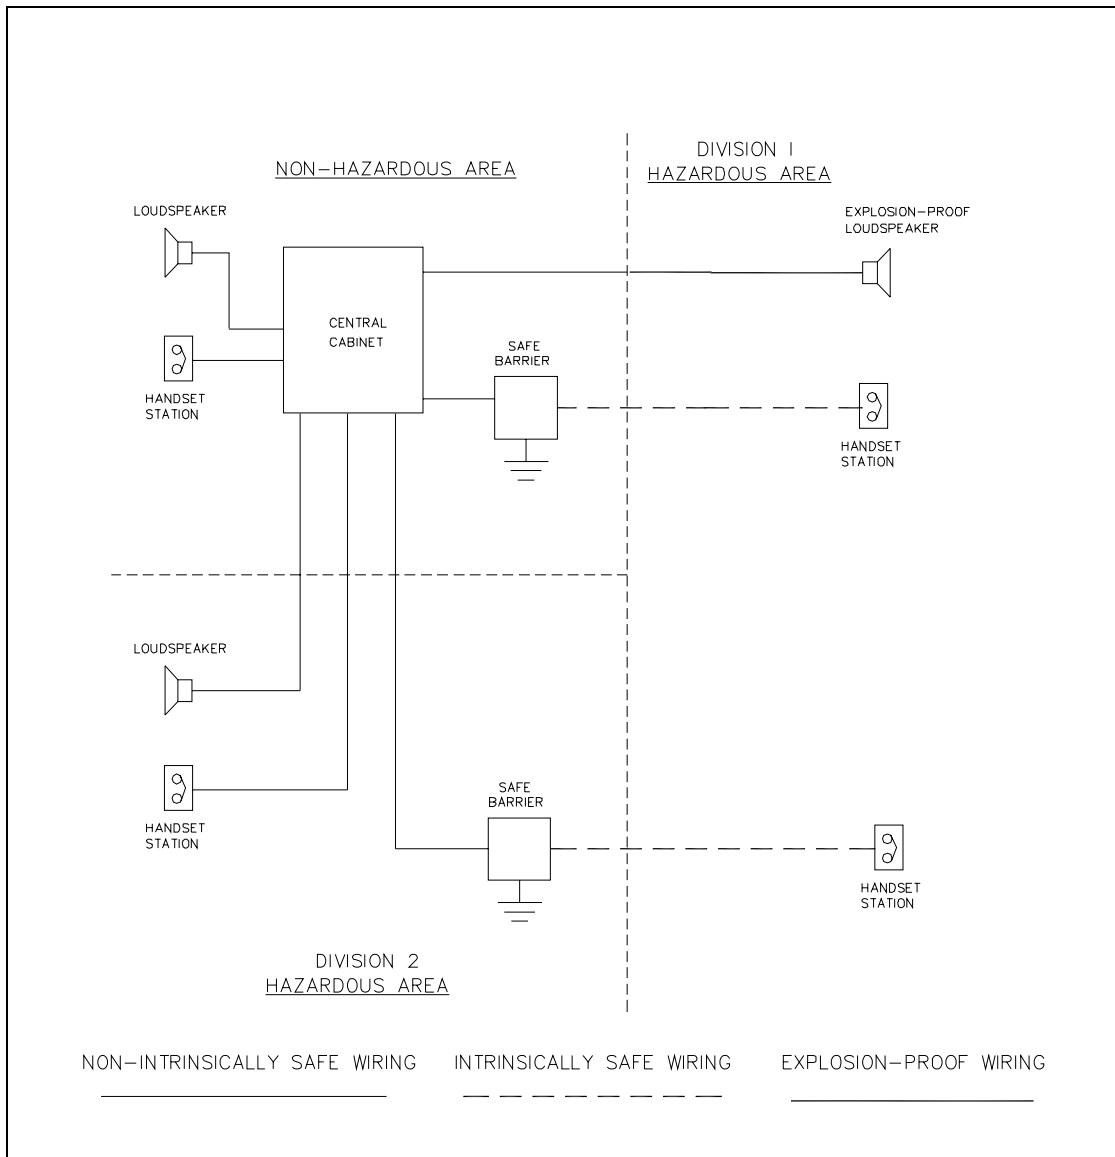

Figure 1. Typical Centra-Page System Diagram
All of the handset stations and speakers in a Centra-Page system are homerun (individually) wired back to the card rack(s). Terminations for each station and associated speaker are found in the rear of the card rack. For wiring information, refer to Figure 1, which illustrates a typical Centra-Page system, to the Model 10468-002 Centra-Page Central Cabinet manual, Pub. 42004-222, and the individual component manuals.
A typical Centra-Page system with components in both hazardous and non-hazardous areas is shown in Figure 1.
8. Wiring from the terminal blocks (TB1 through TB10) on the rear of the card rack to the associated handset station and speaker can be accomplished in several ways. See Figure 1. In each wiring option, terminal connections L1, L2, P, and A on the card rack correspond to L1, L2, P, and A on the terminal strips on each handset station. The remaining two conductors are connected to C and either 70.7 V or 8 ohm for loudspeaker wiring. See the Cabling section below for additional information.